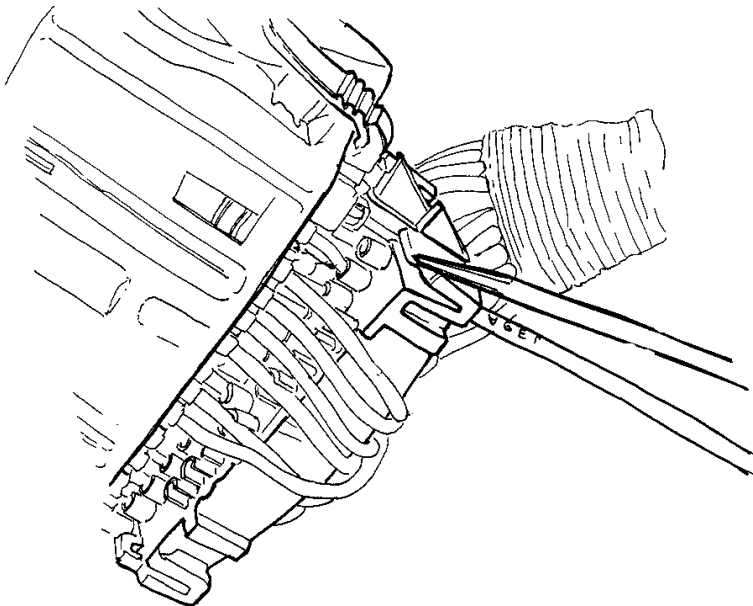

Figure 7 Install Retainer
9. Re-install the green rubber seal and retainer (Figure 7).